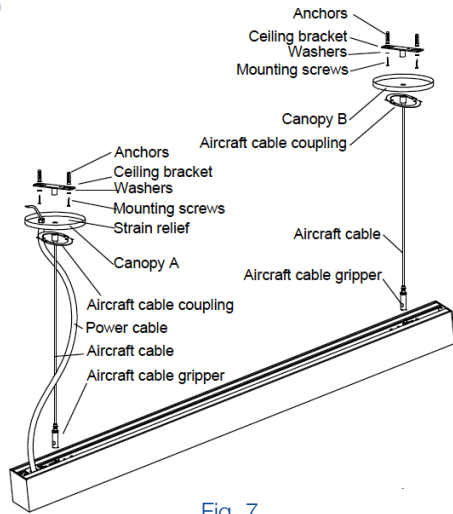

Fig. 7
1. Remove lens and LED reflector strip (see *Surface Mount instructions*). Secure aircraft cable grippers with screws and washers in the provided holes on the top of the fixture. (Fig. 7)